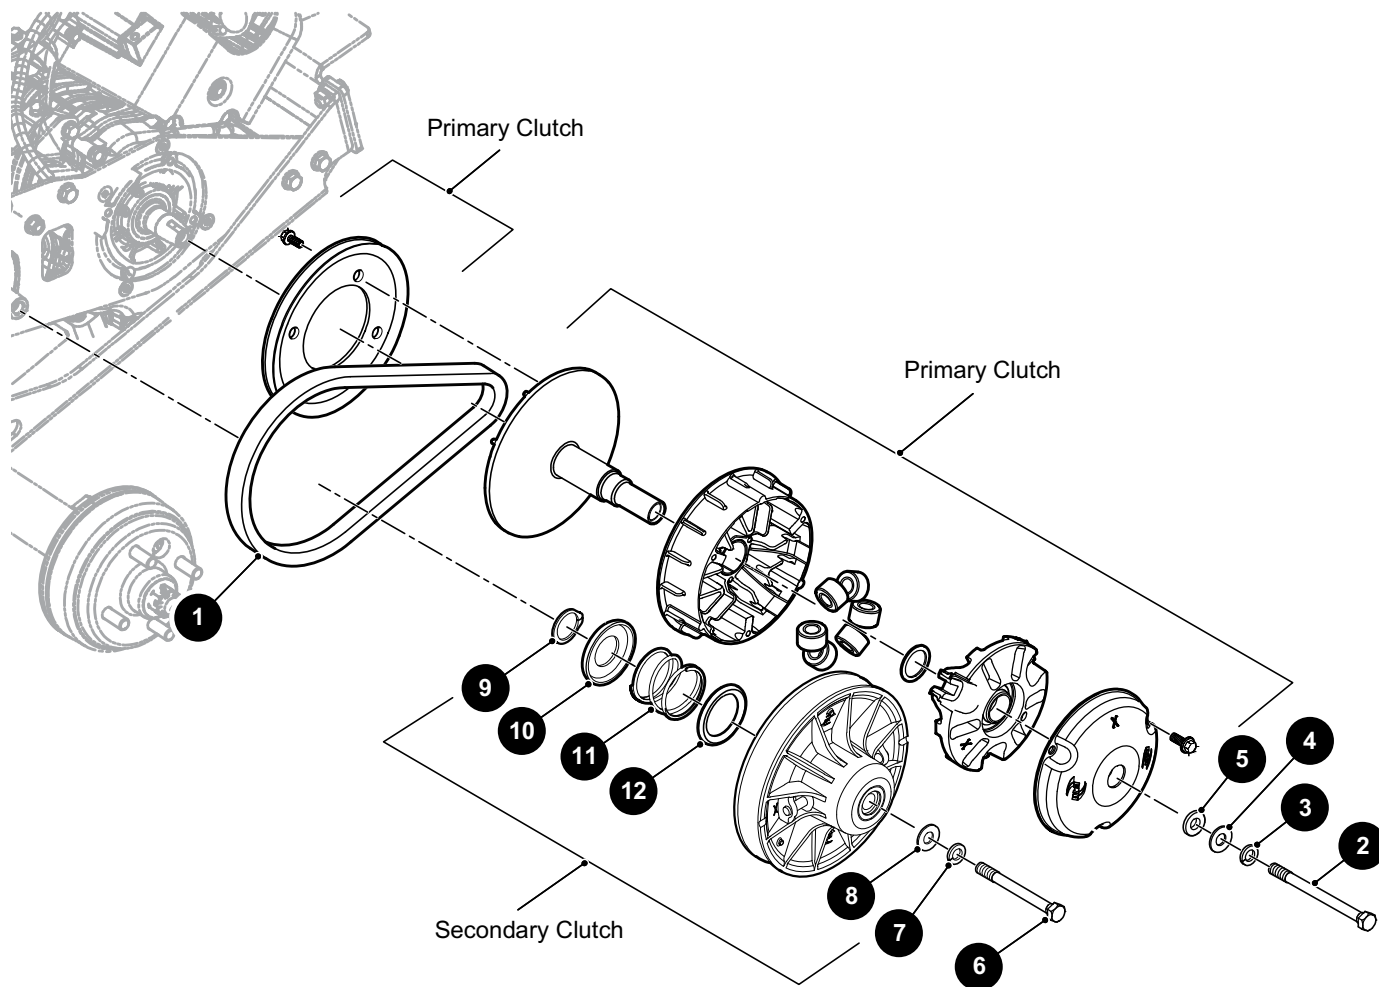

Figure 3 CVT Components
Remove the CVT belt (1) (Figure 3). Remove the Starter/Generator belt (Refer to Starter/Generator Removal in ENGINE section).
Remove the bolt (2) from the center of the primary clutch (Figure 3).
Clean both the engine crankshaft and the primary clutch bore. Slide the clutch onto the engine crankshaft and rotate the clutch while lightly pushing the movable sheave in and out several times to seat the clutch on the tapered crankshaft (Figure 3).
Remove the retaining ring (9) and remove the outer spring retainer (10) (Figure 3). Remove the spring (11), inner retainer spring (12) and the movable sheave (13).
Assemble the movable sheave (13) to the fixed sheave (14) and insert the spring (11) and inner retainer spring (12) in the pilot hole in the movable sheave (Figure 3).